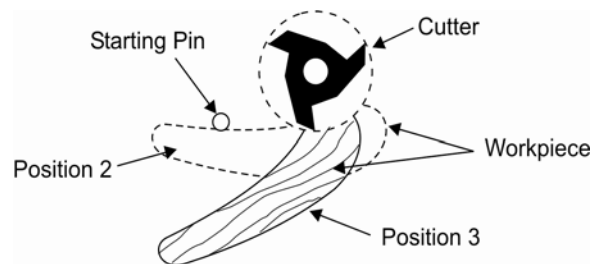

Figure 40
- After the cut has been started, the work is swung free of the starting pin and only rides against the collar (Figure 40). Always feed against the cutterhead rotation.